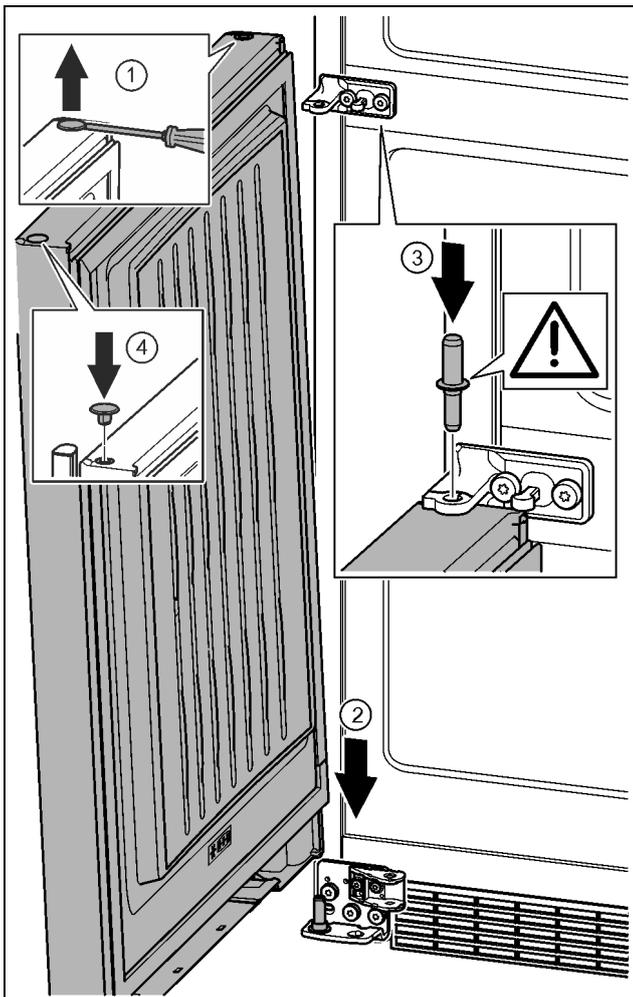

Fig. 35
- ▶ Carefully lift up the plugs with a slotted screwdriver and remove them. Fig. 35 (1)
- ▶ Position the door from above onto the lower bearing pins. Fig. 35 (2)
- ▶ Insert the centre bearing pin through the centre bearing bracket into the lower door. Make sure that the catch mechanism is pointing to the rear. Fig. 35 (3)
- ▶ Insert the plugs again on the other side of the door. Fig. 35 (4)